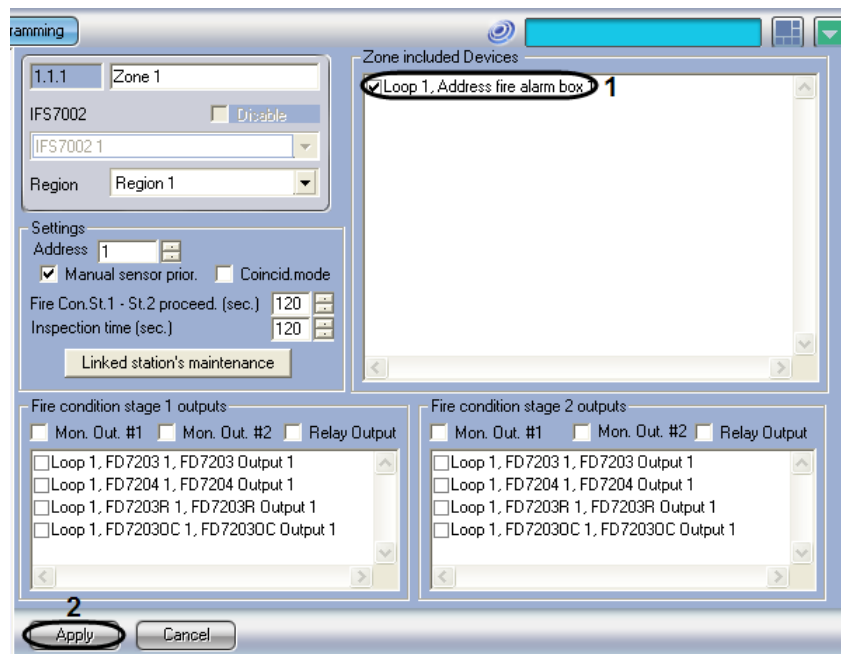

Fig. 3.7—5 How to include detectors in a zone
1. Go to the settings panel of the “Zone” object (Fig. 3.7—5).
2. In the “Zone Included Devices” group, check the required addressable detectors (see Fig. 3.7—5, 1).